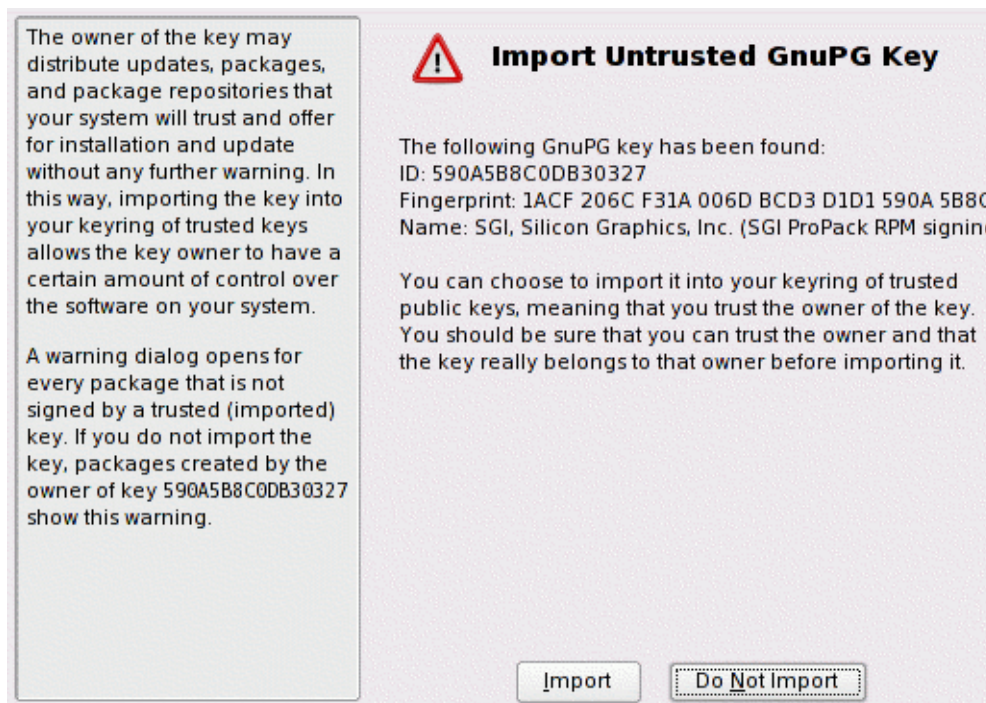

Figure 2-7 Import Untrusted GnuPG Key Screen
13. From the **Import Untrusted GnuPG Key** screen as shown in Figure 2-7, click on the **Import** button to import the SGI Key into YaST.